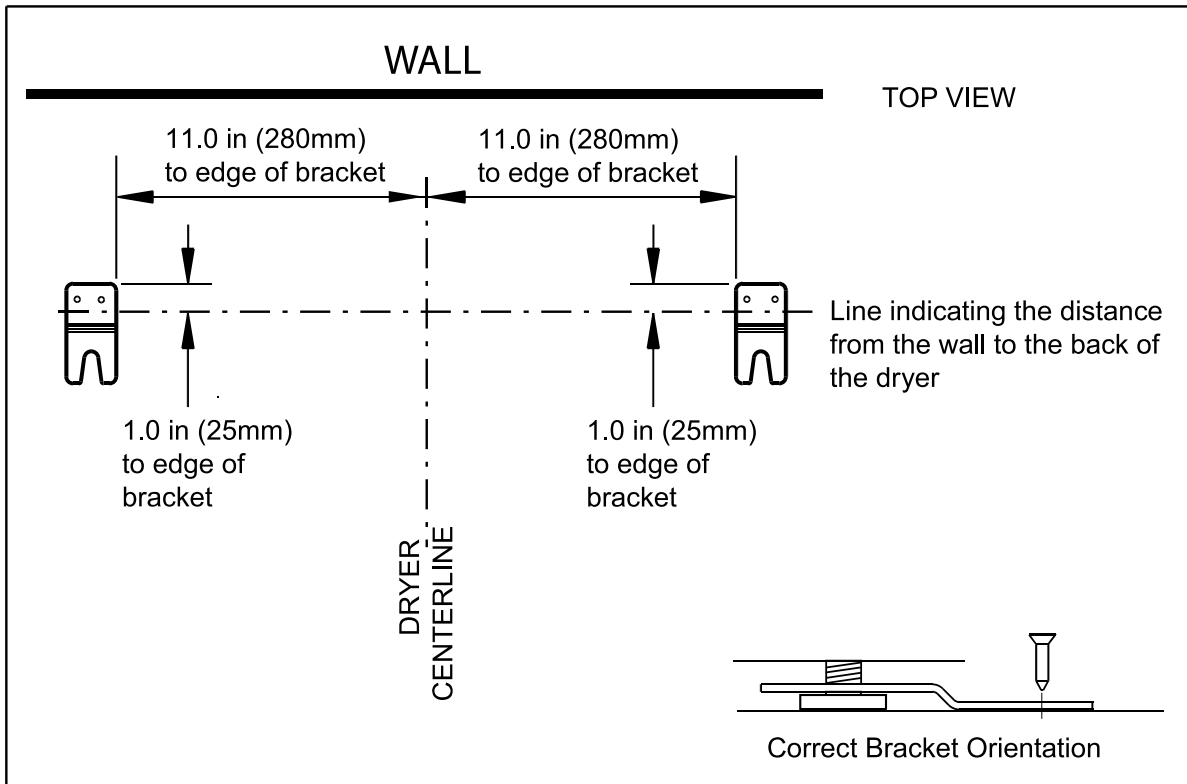

Figure 2
6. Using the measurements from Step 4, install (2) 0030101225 Hold Down Brackets as shown in Figure 2 using (4) 0030101240 #10 X 1/2" Wood Screw. Note the correct bracket orientation.